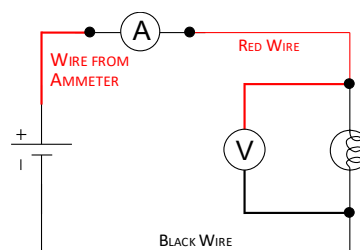

Figure 2b: Bulb circuit *with* meters
- Connect the ammeter:* You will first connect the **ammeter** to measure the current through the bulb. **Turn the voltage off** by turning the power supply knob counterclockwise all the way and pressing the button. Disconnect the wire from the + terminal of the power supply (**Figure 2b**), and insert it in the "COM" port of the ammeter; the free end of the wire previously inserted in the "A" port of the ammeter is then connected to the power supply to complete the circuit. Set the ammeter to '2' DCA. (Keep the power supply turned off!)
- Connect the voltmeter:* Next you will connect the **voltmeter** to measure the voltage across the bulb. Plug the red and black wires from the voltmeter into the connectors on both sides of the bulb as shown in **Figure 2b** – don't remove the wires connected to the bulb. Set the voltmeter to '200' DCV. (The power supply is still off!). Sketch this completed circuit in your report.